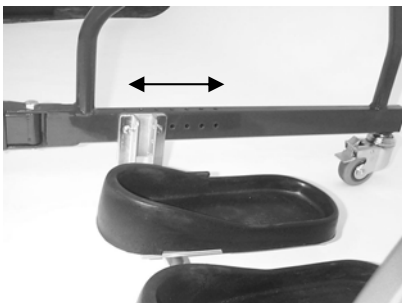

Figure 3
1. Front-to-back location is determined by moving the Foot Support System to one of the settings on the side frames and securing with the hex bolts (*Figure 3*). Foot support should be set so that the body is properly aligned (straight) while in the standing position.